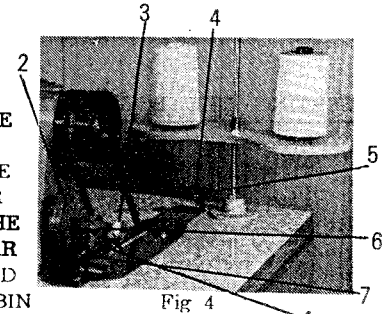

Fig 4
1. PLACE THE BOBBIN (3) ON SPINDLE WINDER.
2. PASS THE THREAD THROUGH THE HOLE (4) OF THE BOBBIN WINDER THREAD GUIDE AND THROUGH THE TENSION DISCS (5) FROM THE REAR
3. PULL THE END OF THE THREAD AND WIND IT AROUND THE EMPTY BOBBIN SEVEN OR EIGHT TIMES FROM THE BOTTOM UP AS SHOWN BY THE ARROW IN FIG. 4.
4. PUSH THE BOBBIN WINDER LEVER (1) DOWN UNTIL THE BOBBIN WINDER WHEEL (2) PRESSES AGAINST THE DRIVE BELT.
7. YOU CAN EASILY ADJUST THE MAXIMUM QUANTITY OF THREAD TO BE WOUND UP ON THE BOBBIN BY ADJUSTING THE SCREW (7) WHICH CONTROLS LATCH (6).
8. IF THE THREAD DOES NOT WIND EVENLY ON THE BOBBIN. ADJUST THE POSITION OF THE BOBBIN WINDER THREAD GUIDE (4) BY MOVING IT TO THE RIGHT OR LEFT AFTER LOOSENING THE SCREW.